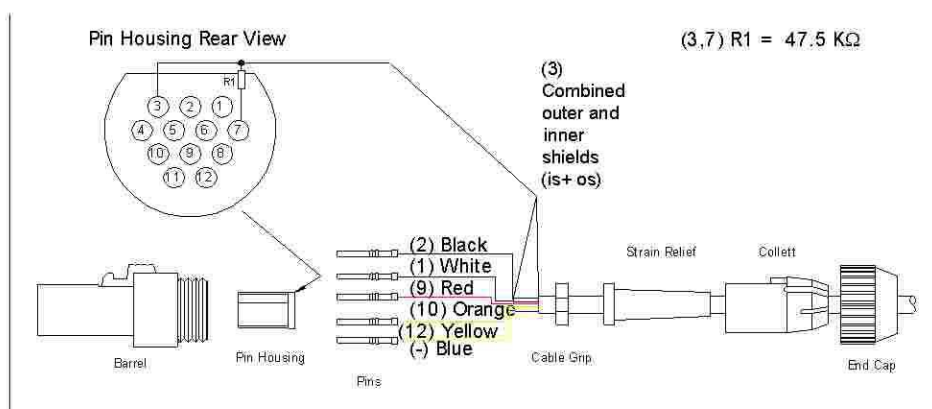

Fig 2.2
10. Solder all wires, except shields, to the rear of pins and push/pull firmly into correct locations as shown in fig 2.2.